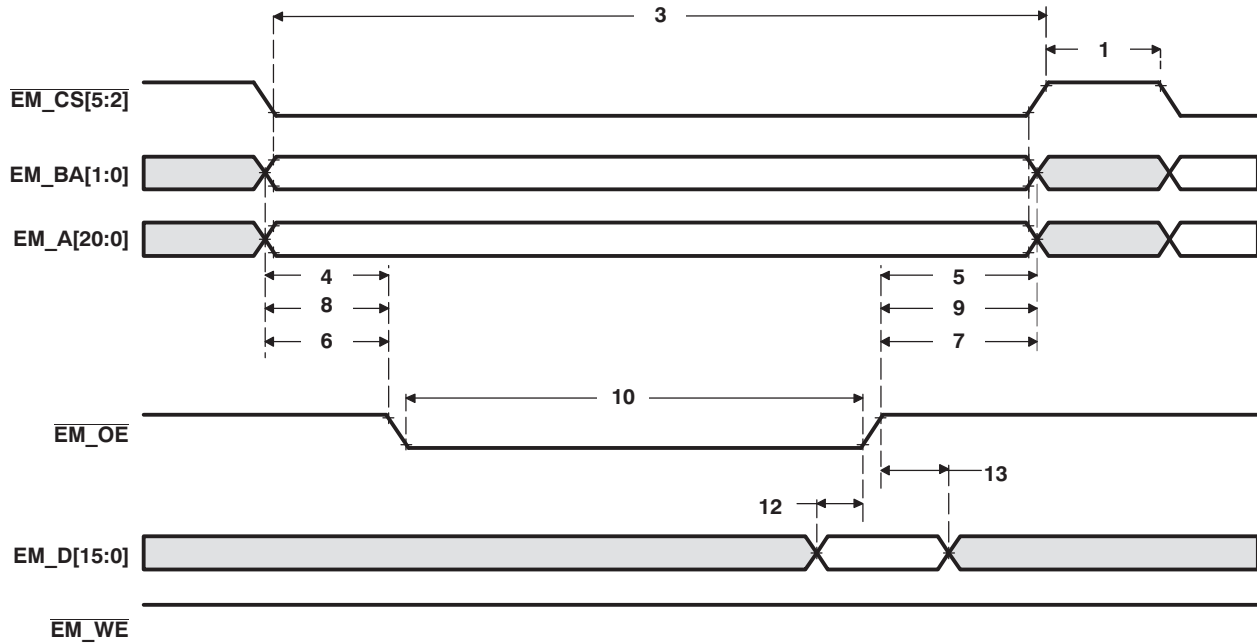
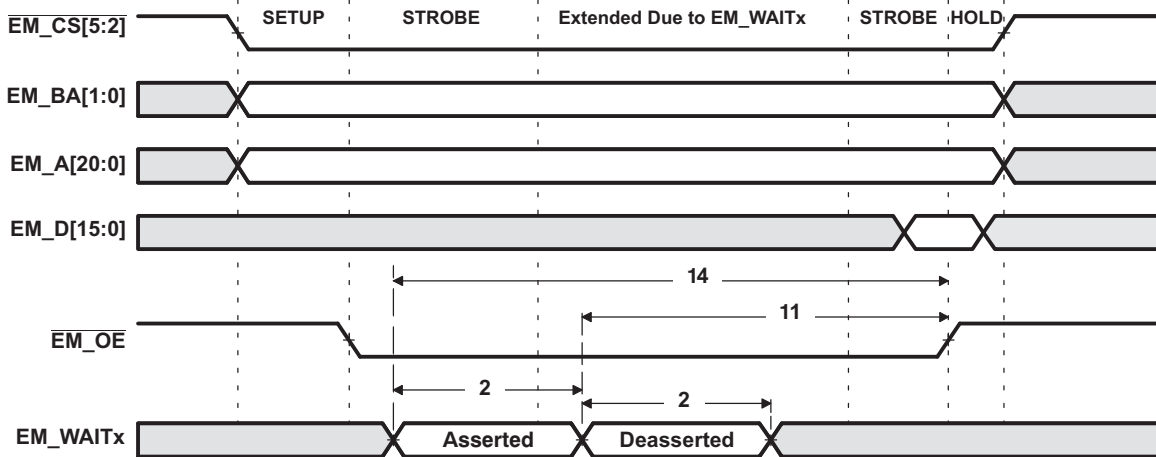
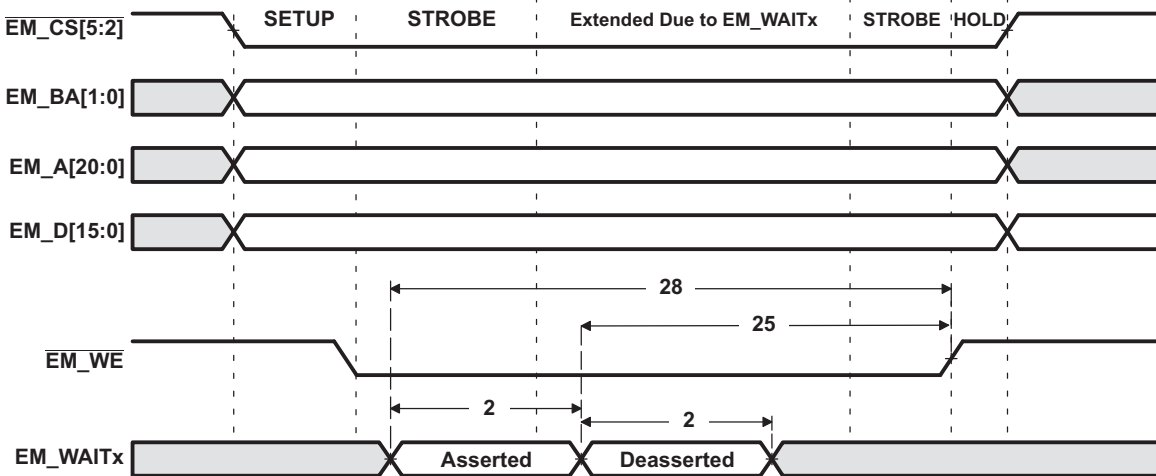

Figure 5-24. Asynchronous Memory Read Timing for EMIF
Figure 5-26. EM_WAITx Read Timing Requirements
Figure 5-27. EM_WAITx Write Timing Requirements
- (1) Timing parameters are obtained with 10pF loading on the EMIF pins.
(2) E = SYSCLK period in ns. For example, when SYSCLK is set to 75 or 200 MHz, E = 13.33 or 5 ns, respectively.
(3) Setup before end of STROBE phase (if no extended wait states are inserted) by which EM_WAITx must be asserted to add extended wait states. Figure 5-26 and Figure 5-27 describe EMIF transactions that include extended wait states inserted during the STROBE phase. However, cycles inserted as part of this extended wait period should not be counted; the 4E requirement is to the start of where the HOLD phase would begin if there were no extended wait cycles.
(see Figure 5-24, Figure 5-26, and Figure 5-27)
(see Figure 5-24, Figure 5-26, and Figure 5-27) (continued)
⁽⁴⁾ (see Figure 5-24, Figure 5-26, and Figure 5-27)**
⁽⁴⁾ (see Figure 5-24, Figure 5-26, and Figure 5-27) (continued)**